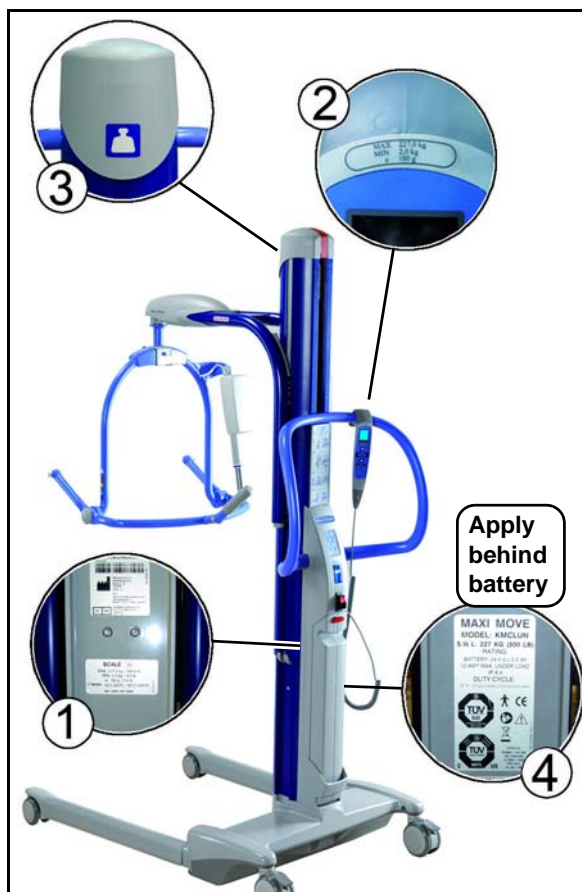

Fig.15
- 1) Apply the scale label on the back plate (see Fig.15, callout 1).
- 2) Apply the scale handset label on the handset (see Fig.15, callout 2).
- 3) Apply the scale logo to the Maxi Move top cover (see Fig.15, callout 3).
- 4) Replace the model label with the one supplied in the upgrade kit. Note: In kit 700-25340, two different label models are supplied (for KMCSXN and KMCLXN). Use the label corresponding to the model of the unit being upgraded and discard the other (see Fig.15, callout 4).